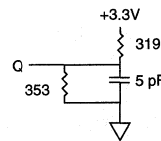

Fig. 2 OUTPUT LOAD EQUIVALENT
- ^tHZCE and ^tHZWE are specified with C_L = 5pF as in Fig. 2. Transition is measured ±200mV from steady state voltage.